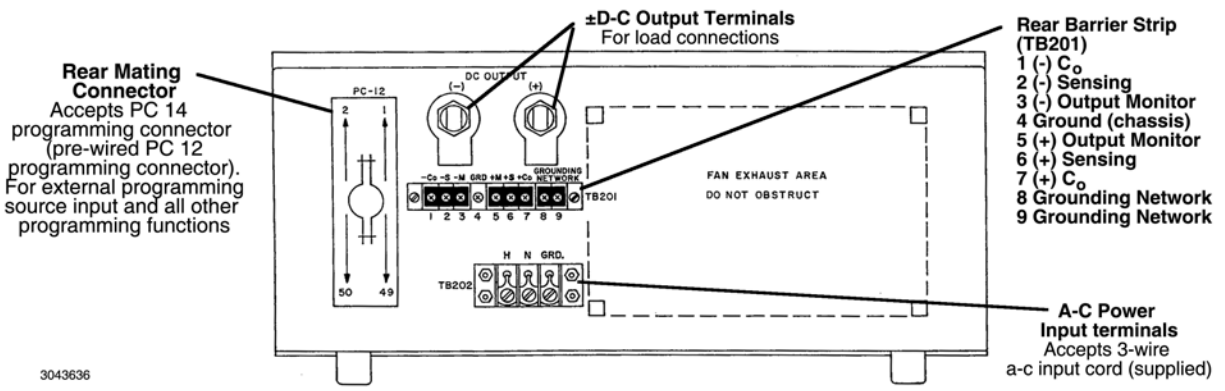

FIGURE 3. REAR PANEL TERMINATIONS
3.4. CONNECTIONS. Connections are made using the rear panel terminations (see Figure 3).
3.4.1. LOAD CONNECTION, GENERAL. Connect the load between –OUT and +OUT output power terminals at the rear panel (see Figure 3. *Sense connections are required, either local or remote, must be used; otherwise the unit will not operate.*
3.4.3. LOAD CONNECTION, REMOTE SENSING. To avoid excessive output effects at remote loads, remote error sensing must be used (Kelvin connection). A pair of wires (twisted to reduce EMI) connected from the sensing terminals directly to the load will compensate for load wire voltage drops up to 0.5 volt per wire (refer to Figure 3. 3-4). Observe polarities: the negative sensing wire must go to the negative load wire, and the positive sensing wire goes to the positive load wire.